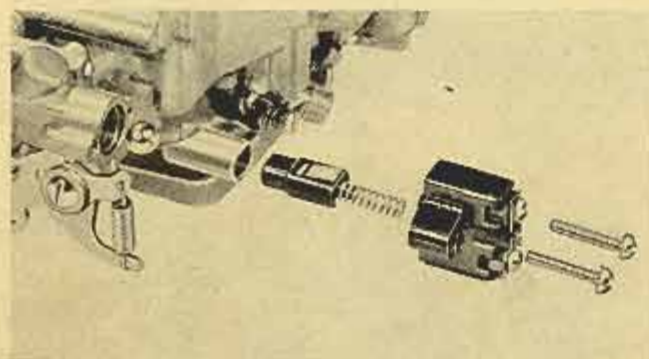

Fig. 20
10. Fig. 20 shows an exploded view of the starter switch and is installed as shown. The switch plunger must be installed with the milled groove upward.